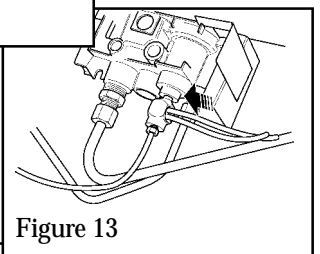

Figure 13
6. Connect the flue switch leads into the thermocouple interrupter. Screw the thermocouple into the interrupter block until finger tight. Make sure that the leads are properly located and finally tighten the thermocouple nut firmly to ensure good contact. See figure 13.